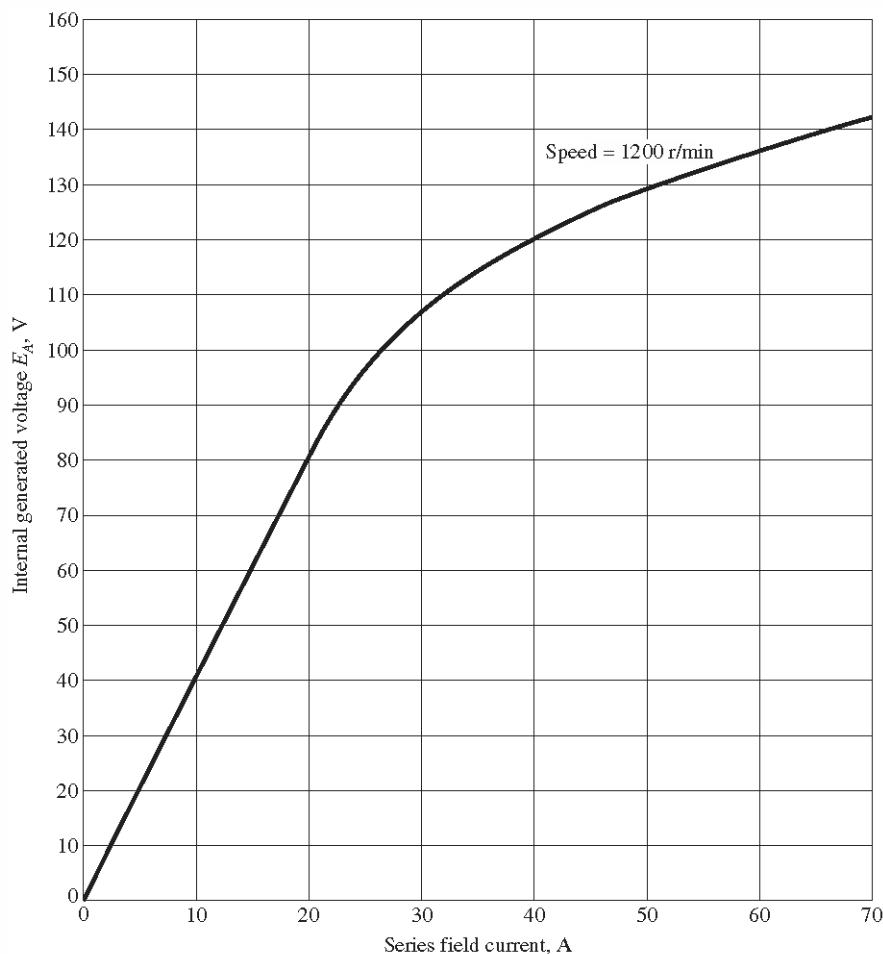

FIGURE P8-5
- 8-13.** A **7.5**-hp 120-V series dc motor has an armature resistance of $0.1\ \Omega$ and a series field resistance of $0.08\ \Omega$. At full load, the current input is **56** A, and the rated speed is 1050 r/min. Its magnetization curve is shown in Figure P8-5. The core losses are **220** W, and the mechanical losses are **230** W at full load. Assume that the mechanical losses vary as the cube of the speed of the motor and that the core losses are constant.
From Figure P8-5, the internal generated voltage $E_{Ao,2}$ for a current of 40 A and a speed of $n_o = 1200$ r/min is $E_{Ao,2} = 120 \text{ V}$, and the internal generated voltage $E_{Ao,1}$ for a current of 56 A and a speed of $n_o = 1200 \text{ r/min}$ is $E_{Ao,1} = 133 \text{ V}$.